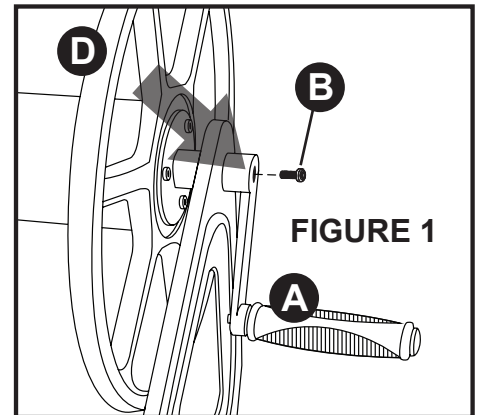

FIGURE 1
1. Align the holes in the crank handle (A) with crank handle shaft. Tighten using the Allen wrench and screw (B). Do not over tighten crank handle Allen screw. **Figure 1**
Insert the four bumpers (B) provided into the mounting holes at the hose reel base (E). **Figure 1**